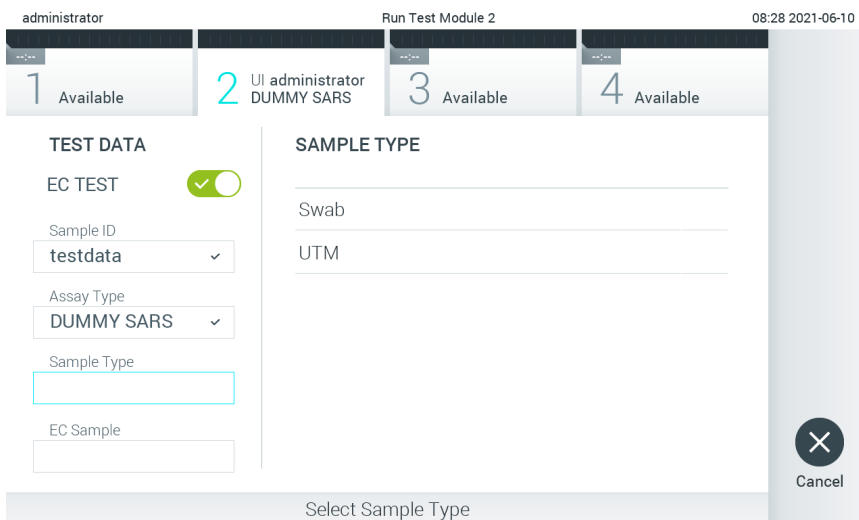

Figure 91. Choosing a sample type.
- If required, select the appropriate sample type from the list (Figure 91).